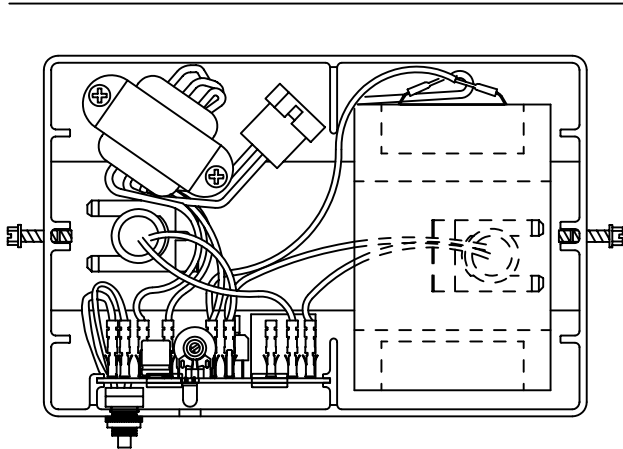

FIGURE 1
5. To install battery, peel backing from tape on back of battery and press firmly into position in housing as shown in Figure 1.